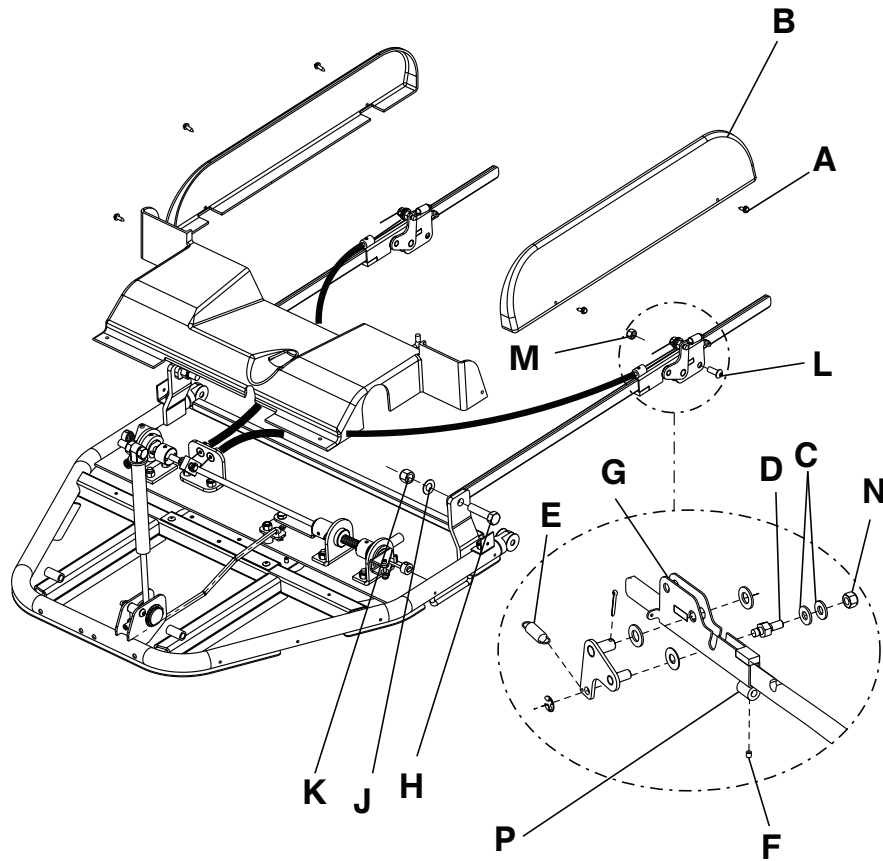

Figure 18 – Locking link adjustment
5. Using a 1/4" nut driver, remove the screws (A) that secure the cover (B) to the frame to remove the cover (Figure 18). Save all parts.
6. Using two 7/16" combination wrenches, loosen the cable retainer (C) and the hex nut (D) to allow the cable to move freely (Figure 18).
7. Using needle nose pliers, remove the extension spring (E) (Figure 18). Make sure that the lock weldment rotates freely. Save the extension spring.
8. If the lock weldment does not rotate freely, use two 7/16" combination wrenches to loosen the washer (C) and Nylock lock nut (N) until the lock weldment rotates freely.
11. Using two 7/16" combination wrenches, tighten the cable and hex nut (D) (Figure 18).
14. Using two 7/16" combination wrenches, loosen the cable retainer and the hex nut (D) around the cable.
15. Tap the lock weldment with a wrench and move it down until the lock pin is 1/16" or less above the surface of the inner lock tube (G).